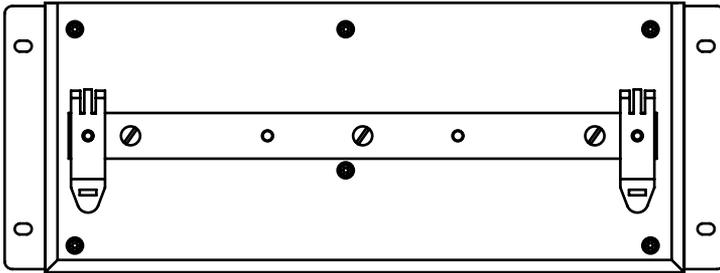

Figure 3-1: DIN-Rail Mounting
The controller should be mounted and securely bolted into place using the four (4) 3/16" diameter mounting holes. A DIN-rail mounting kit is supplied with all units, for an optional means of mounting. See Fig. 3-1.
The Series 7500 PLS is used with either a single-turn resolver or incremental encoder. Wiring for this system is shown in Figures 3-1 through 3-9. These wiring diagrams are applicable for all standard 7500 PLS's.